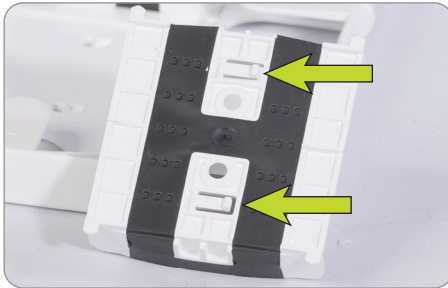

Figure 2
1. To add a splice module to Apex splice tray, simply align the latch tabs (Figure 2).